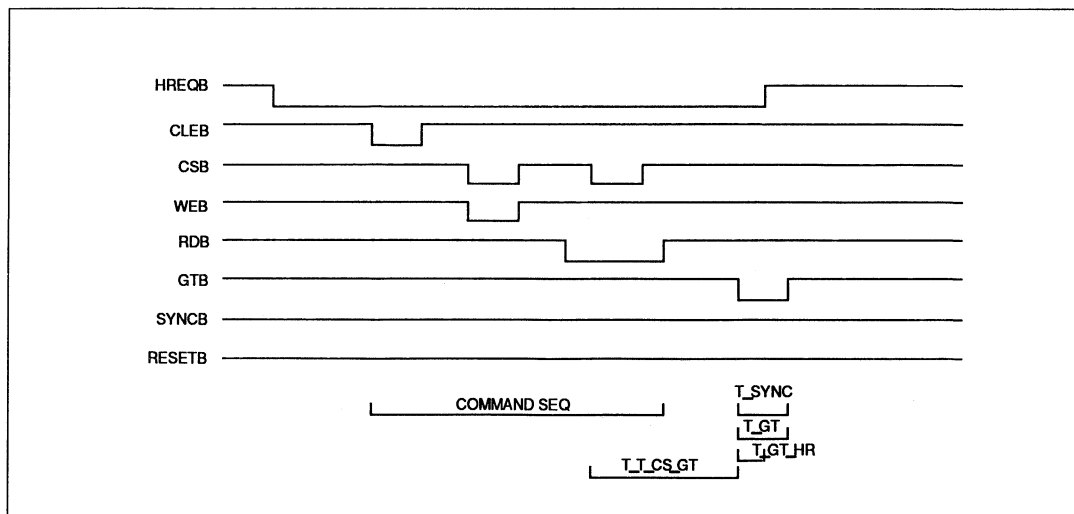

Figure 2.10: Transmit Internal Bit Word
**TRANSMIT INTERNAL BIT WORD** (Figure 2.10)